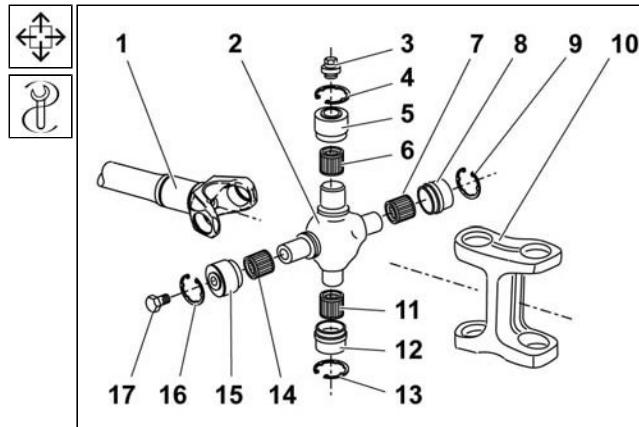

Fig. 7.175 Disassembly of propeller shaft
3. The decisive factor in the adjustment of a correct meshing zone is a displacement of pinions in direction H, H'. The direction of displacement of pinions in mesh (+H, +H') or out of mesh (-H, -H') by the corresponding value can be evaluated and carried out according to tables for the RH and LH gearing (Fig. 7.175). To adjust the required backlash (**0.3 ± 0.5 mm**), move crown gears in direction J, J', while the displacement $J = J' 0.8 \text{ mm}$ has no essential influence upon the position of the meshing zone.
- **arrow** – direction towards the centre of the crown gear. The LH side (Fig. 7.175) is valid for the RH gearing (gearing of the rotary pinion). The RH side is valid for the LH gearing (gearing of the fixed pinion).
9. After a correct adjustment of the RH gearing mesh, check the mesh of the **crown gear of the LH gearing** in the same way as in points 4 and 5. If the marking on the crown gear indicates a correct mesh (evaluate it according to (Fig. 7.175) and if the backlash is in the prescribed tolerance, tighten adjusting nuts on both half-axles and lock by turning the safety pins 1. Lock the pin screws with iron plates. Tighten fastening bolts of pinion bushings to the torque of **75 ± 8 Nm**.